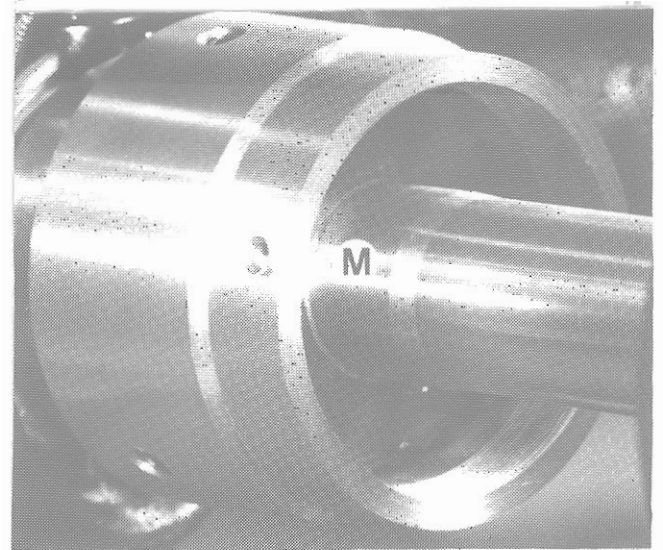

Figure 10.6 - #21 Collet Closer Removal
2. Apply a light film of Mobile Velocite Oil No. 6 or equivalent to bearing surface "M", Figure 10.6, and replace collet closer on spindle.